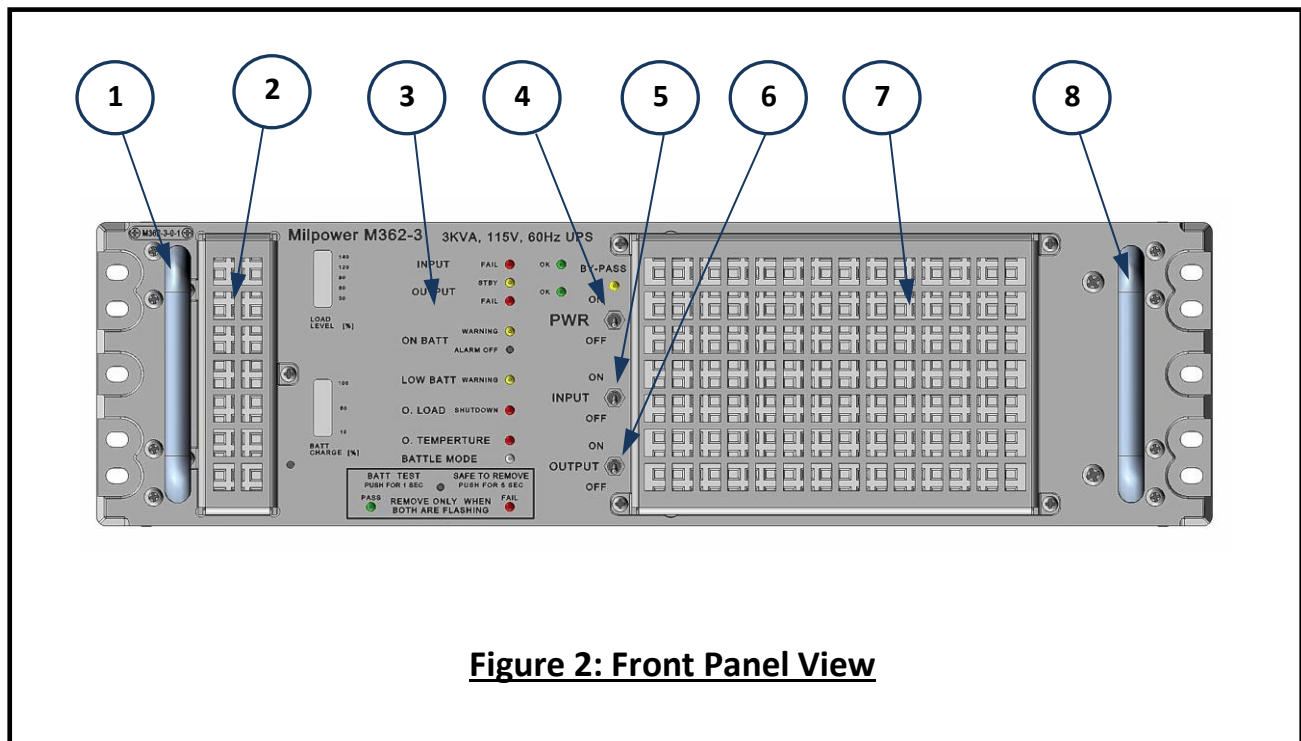

Figure 2: Front Panel View
Note: Except for the Dash (-#) number and description, the front and rear panels of the M362-3 -4 and -9 are identical (Figures 2, 3 and 4 are of the M362-3).
3.1. Front Panel: Main Components (Figure 2)